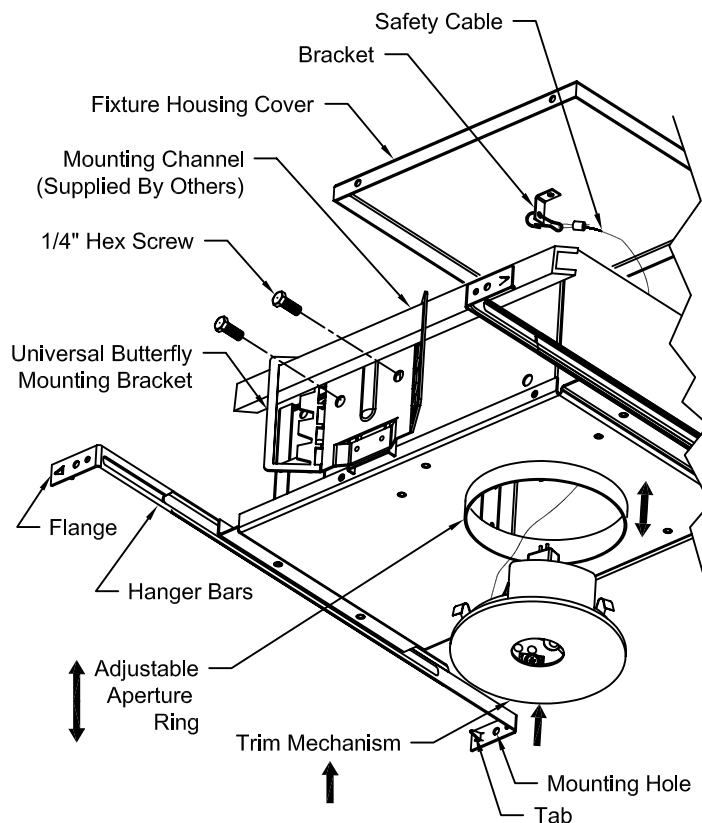
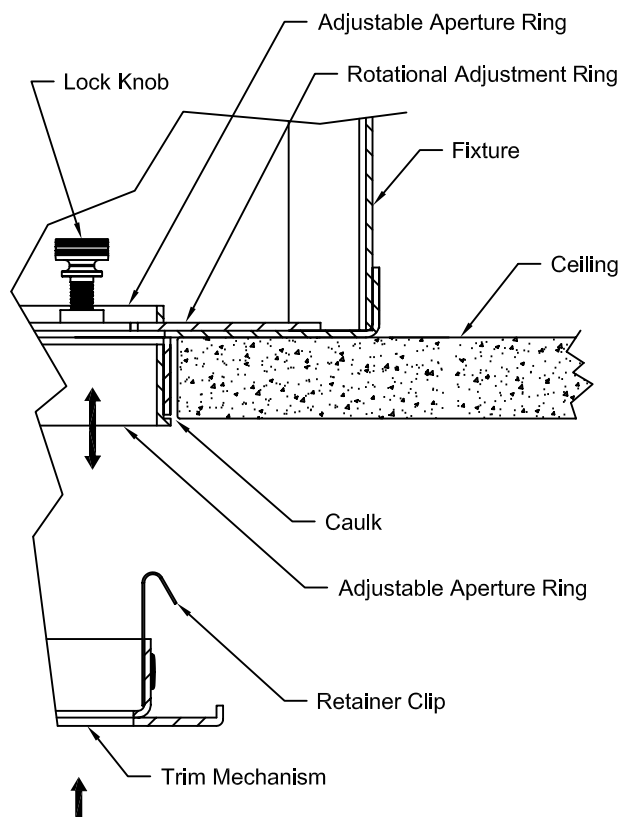
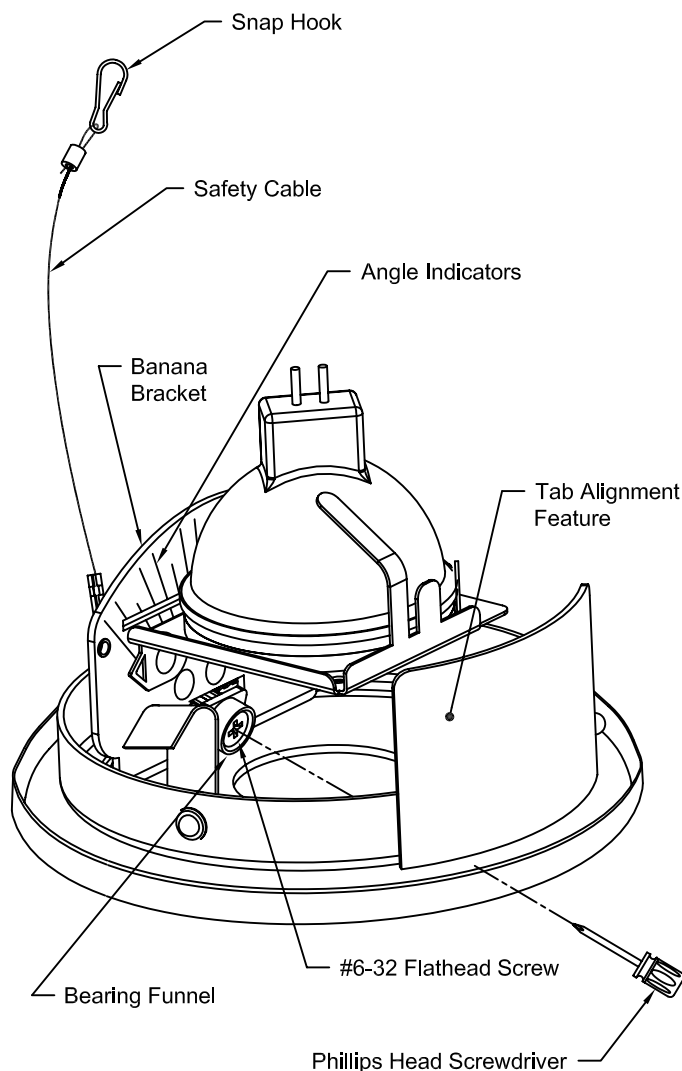

Figure 1
Figure 2
Figure 4
1. Fixture comes equipped with Universal Butterfly Mounting and can take common 1 inch or 1-1/2 inch Black Iron or Galvanized Mounting Channels (Supplied By Others). See Fig. 1.
5. Adjust elevation of Fixture so Adjustable Aperture Ring Edge will be flush with surface of finished Ceiling by loosening two (2) 1/4 inch HEX Screws on both Universal Mounting Brackets. See Fig. 1.
6. Tighten two (2) 1/4 inch Hex Screws on both Universal Butterfly Mounting Brackets to secure Fixture. See Fig. 1.
7. Install Ceiling drywall up to Adjustable Aperture Ring on Fixture. See Fig. 2.
8. Position Adjustable Aperture Ring to be in plane with Ceiling by sliding up or down. See Fig. 2.
3. Hammer Flanges to seat Hanger Bar Tabs in rafters. See Fig. 1.
4. Secure Hanger Bars using one (1) nail in Mounting Hole in each Flange.
5. Install Ceiling drywall up to Adjustable Aperture Ring on Fixture. See Fig. 2.
6. Position Adjustable Aperture Ring to be in plane with Ceiling by sliding up or down. See Fig. 1 & Fig. 2.
1. Connect Safety Cable attached to Banana Bracket on Trim Mechanism (See Fig. 1 & Fig. 4) to Fixture by inserting Safety Cable through opening in Fixture and inserting Snap Hook (See Fig. 4) on end of Safety Cable into hole in Bracket attached to inside of Fixture Housing Cover (See Fig. 1).
2. Install Trim Mechanism into Fixture by pressing firmly to engage Retainer Clips. See Fig. 2.